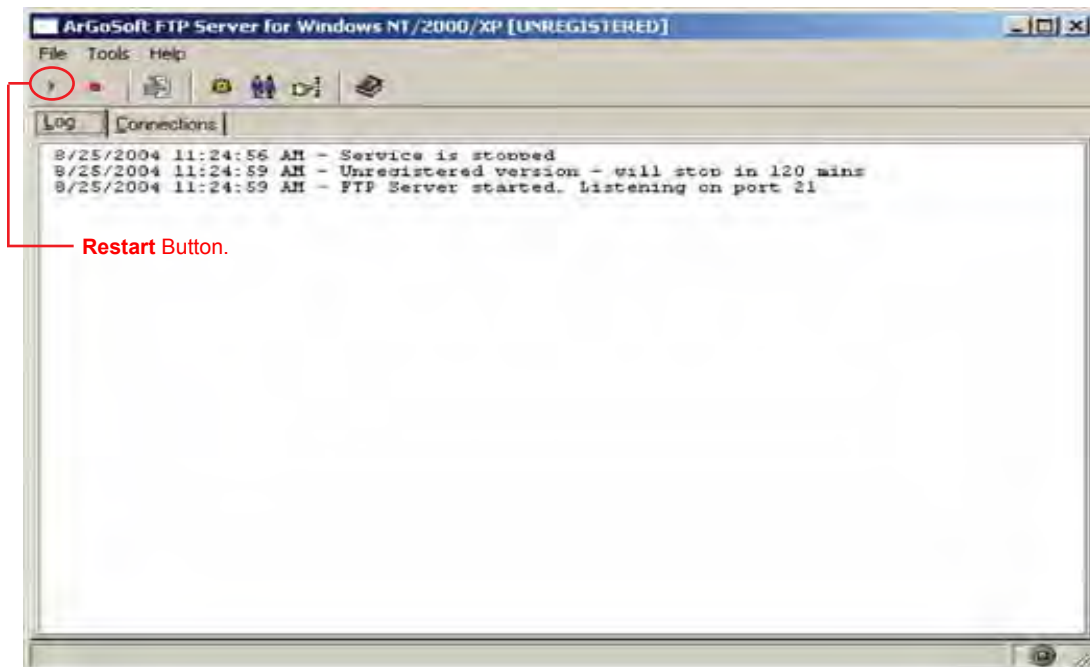

Figure C-2. FTP Server Activated.
11. Go to **File** → **Start** (or double-click on the FTP Server icon from the desktop) to launch the FTP server. A line of text with the current time and date stating **FTP Server started** should be displayed (Figure C-2).